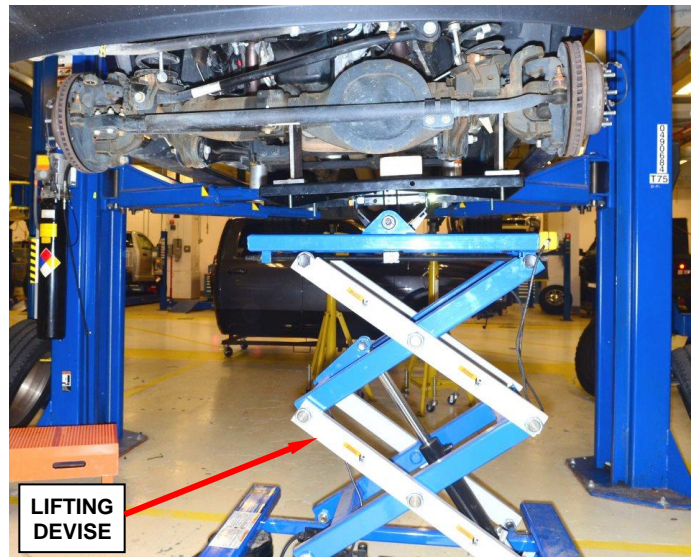

Figure 12 – Secure Axle to Lifting Device
14. Secure the front axle to a lifting device (Figure 12).